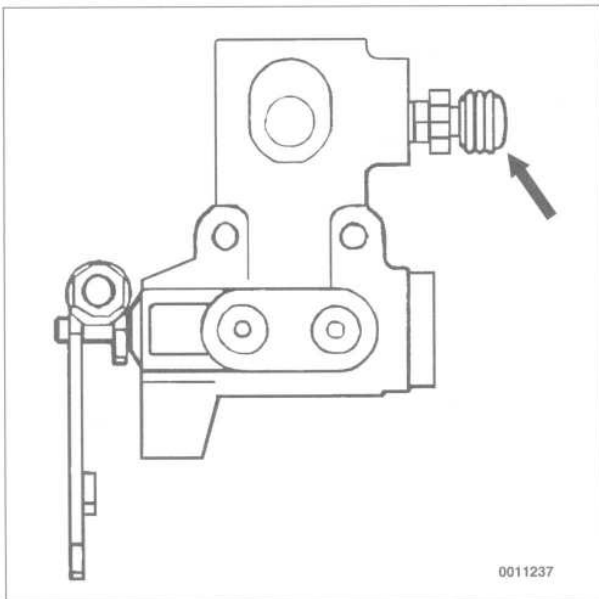

Fig. 3. LAD pressure regulating valve bleeder screw (arrow). The regulating valve is located on the driver's side of the rear axle subframe.
2. On LAD-equipped cars, place a drain pan beneath the pressure regulating valve on the driver's side of the axle subframe. Loosen the valve's bleeder screw and allow the hydraulic pressure to discharge. See Fig. 3.